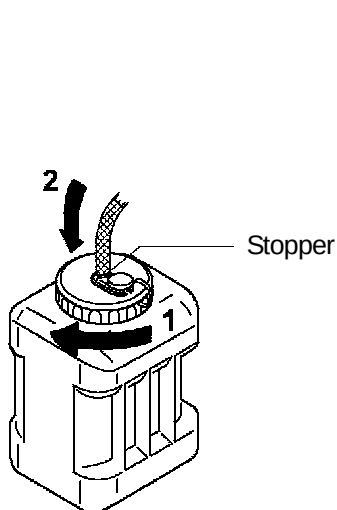

Fig. 25
* Put the Salt Water Hose through the Cap (Accessory) and push in the Salt Water Hose until the Stopper hits the Cap. See Fig. 25. In case of using a larger tank, install the Salt Water Hose so that the filter on the Salt Water Hose can reach the bottom of the tank.